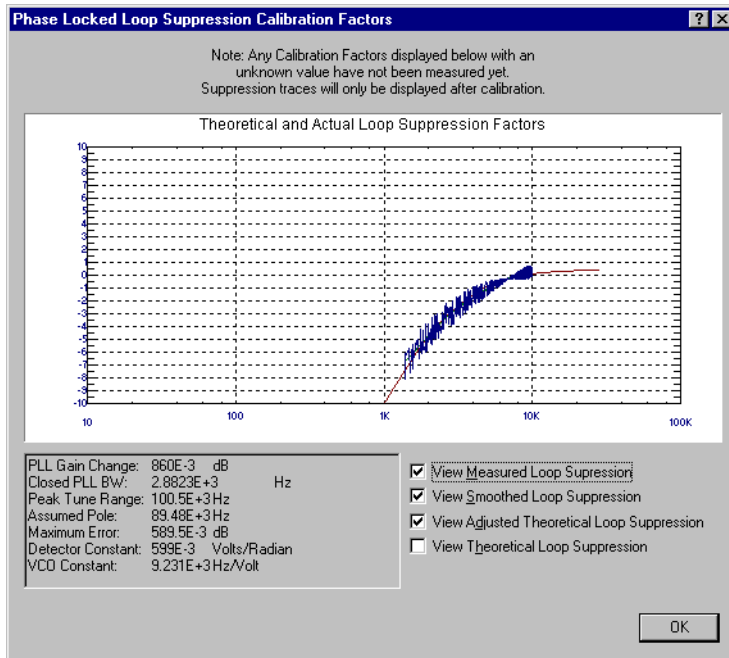

Figure 7-10 Selecting Suppressions
- 2 When the PLL Suppression Curve dialog box appears, select View Measured Loop Suppression, View Smoothed Loop Suppression, and View Adjusted Loop Suppression See Figure 7-10.